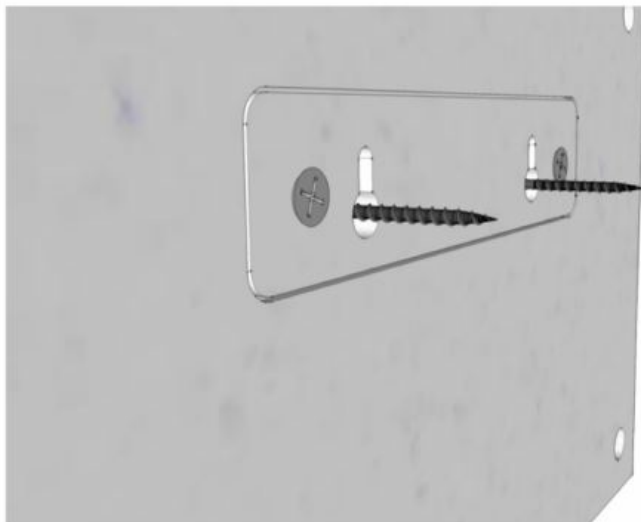
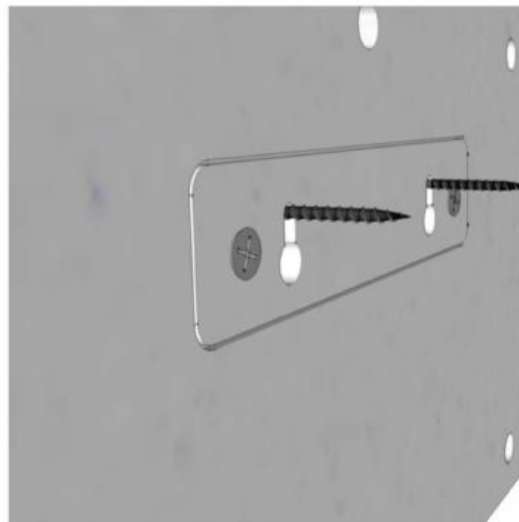

Fig. 1
Fig. 2
2. Insert the back plate into the wall mount screws (Fig. 1) and slide the WhiteBox down to fix it into place (Fig. 2).